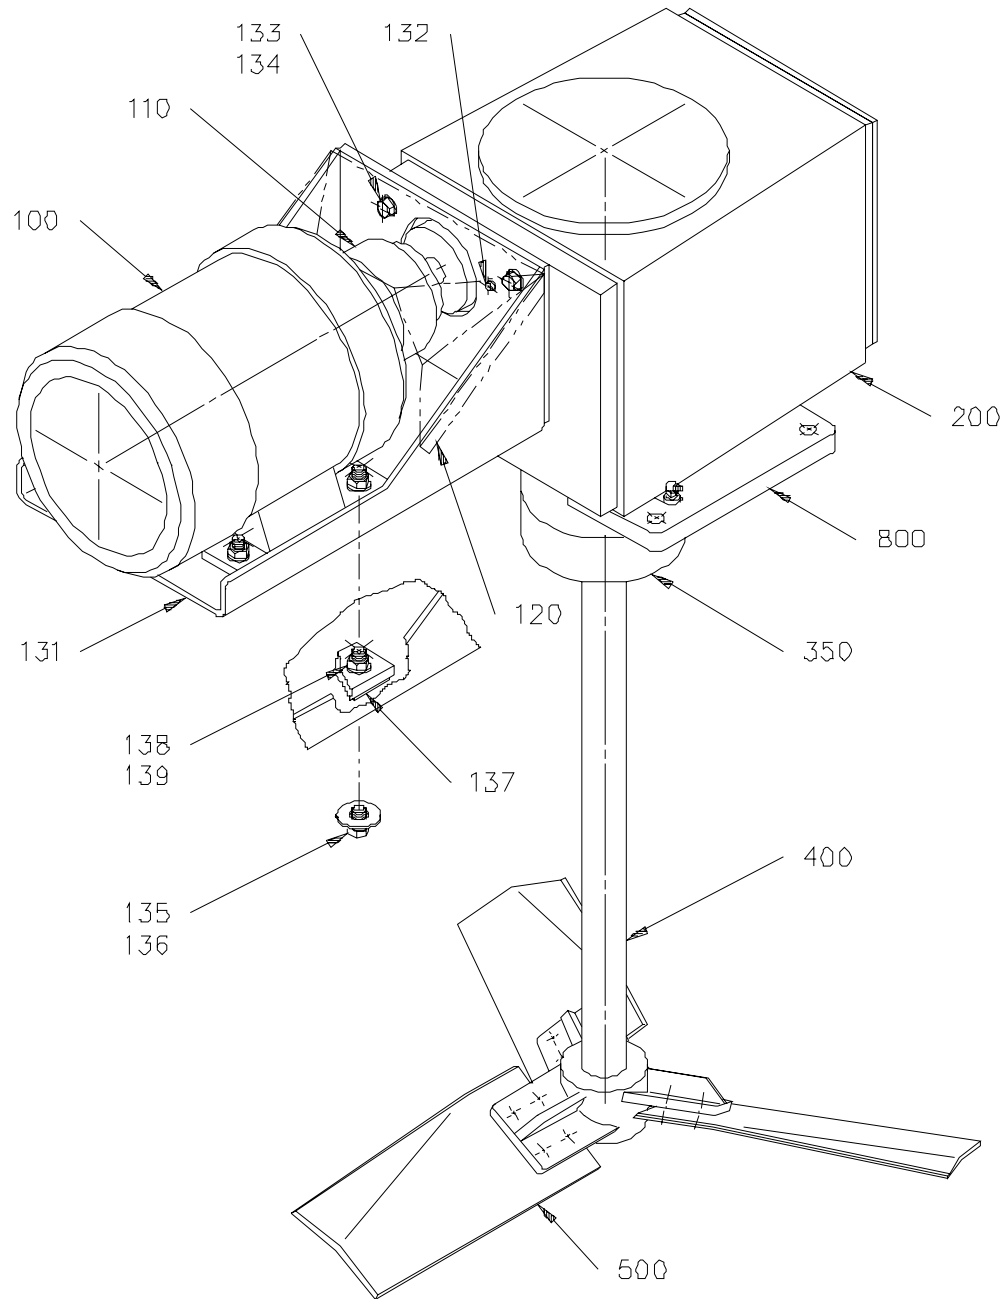

Figure 3: Model HTD Agitator Assembly
1. The HT agitator is shipped in two or more crates: one for shaft [400] and impeller [500] and one for the agitator drive (*Figures 3 and 4, pages 10 and 11*). Optional accessories, multiple impellers and large motors may be crated separately.
3. Motors [100] which are large relative to gear drive [200] are shipped separately with their mounting bracket [131], flexible motor coupling [110], and coupling guard [120]. Reinstall the motor bracket, flexible motor coupling, motor and coupling guard prior to hoisting the agitator drive onto its mounting structure. See *Figures 3 and 4*. If an auxiliary motor bracket support is supplied with the unit, remove the motor from the motor bracket, install the agitator drive assembly and auxiliary motor bracket support. Reinstall the motor and check the flexible coupling alignment.